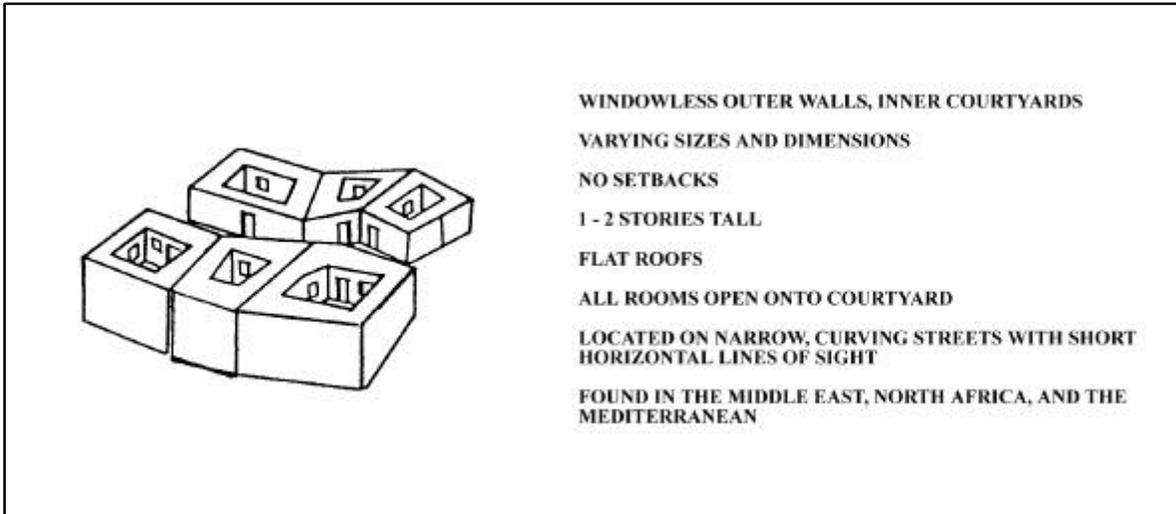

Figure I-20. Enclosed Courtyard
b. In the Middle East and tropical regions, the most common type of housing is the enclosed courtyard. Houses are added to one another with little regard to the street pattern. The result is a crooked, narrow maze that is harder to move through or fire in than dense European areas. (Figure I-20).